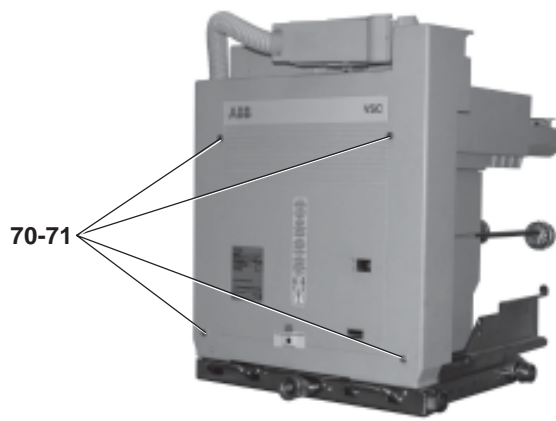
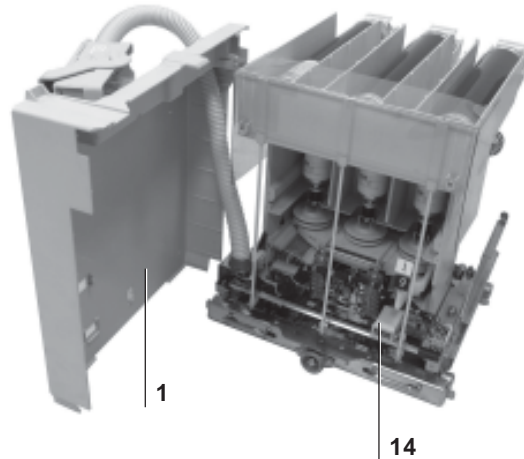
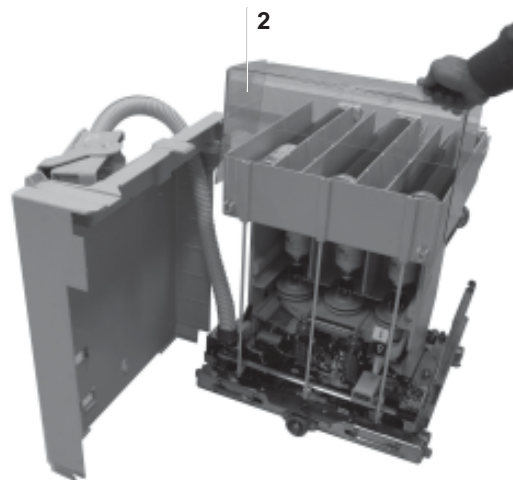
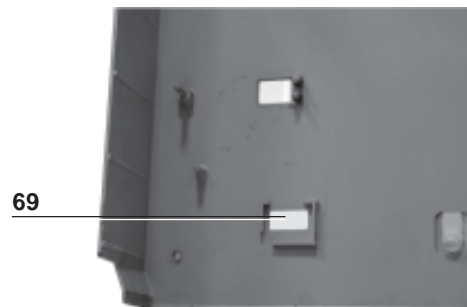

Fig. 17a
Fig. 17b
Fig. 17c
Fig. 17d
With the contactor racked out of the switchgear, unscrew the four fixing screws of the shield and relative DIN washers (fig. 17a) and position it as in fig. 17b. For 12 kV contactors, remove protection (2) and proceed to replace the fuses according to the instructions given in par. 7.7.
Reposition the protection (1) (fig. 17b), repeating the operations indicated in par. 7.6.2. in reverse order.
Remount the shield. Check that the impulse counter (14) (fig. 17c) inserts itself into the special seat (69) (fig. 17d) and fix the shield with the screws (70) and DIN washers (71) (fig.17a).